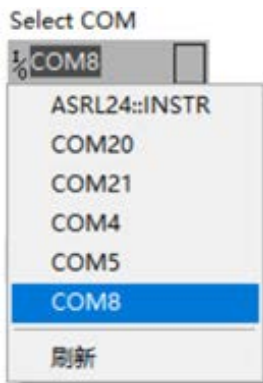
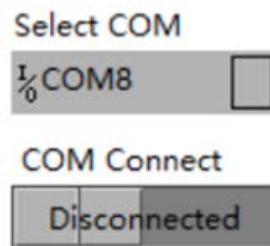
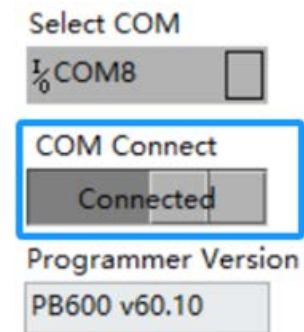

Figure 5.6.3 Select COM
Figure 5.6.4 COM Connect
Figure 5.6.5 Connected state
- Click the menu below "Select COM" to select the corresponding port number for the programmer (Figure 5.6.3). Click the "disconnected" button below the "COM Connect" to establish a communication connection between the programmer and the computer (Figure 5.6.4). After establishing communication between the programmer and the computer correctly, the programmer will return the current firmware version number and display it in the box corresponding to "Programmer Version" below (Figure 5.6.5).